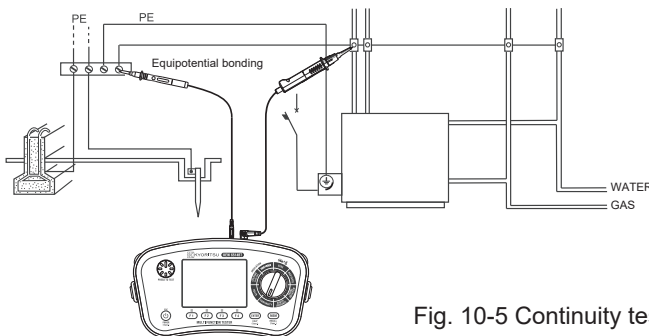

Fig. 10-5 Continuity test example
- (4) Unlock the test switch and confirm the LCD shows 0.00 Ω.
- (5) Confirm that the circuit isn't live and then connect the test leads. (See Fig. 10-5.)